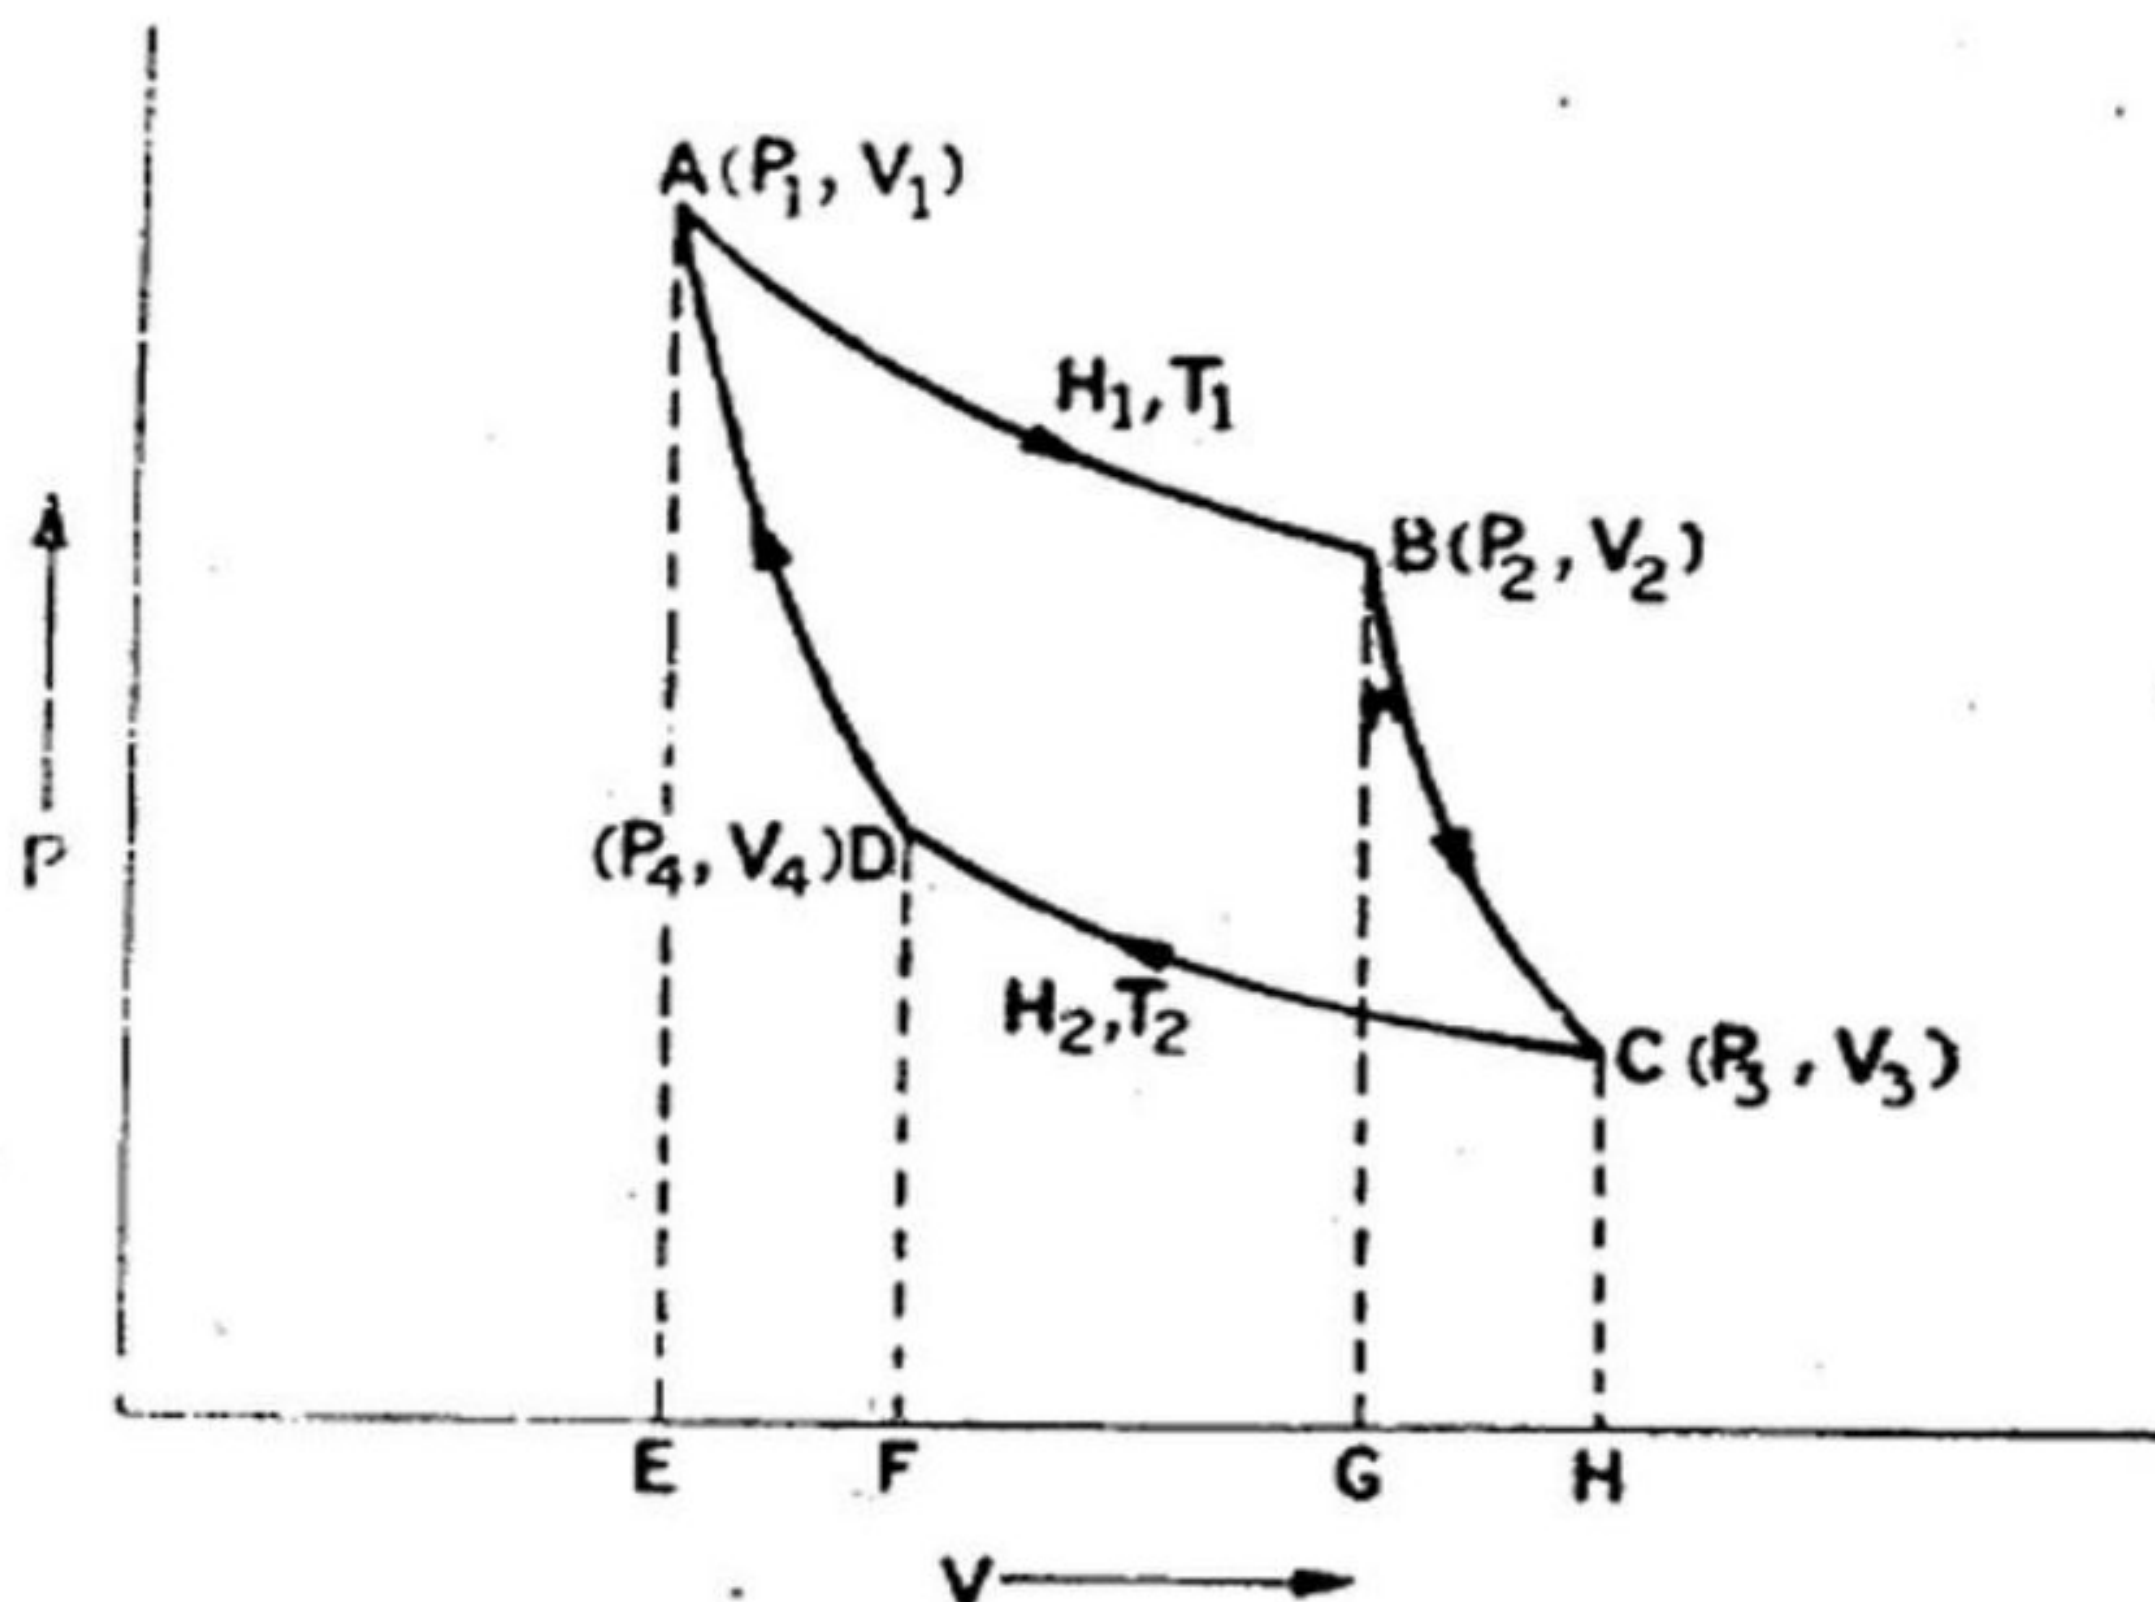

Fig. 6.13
(1) Place the engine containing the working substance over the source at temperature T_1 . The working substance is also at a temperature T_1 . Its pressure is P_1 and volume is V_1 as shown by the point A in Fig. 6.13. Decrease the pressure. The volume of the working substance increases. Work is done by the working substance. As the bottom is perfectly conducting to the source at temperature T_1 , it absorbs heat. The process is completely isothermal. The temperature remains constant. Let the amount of heat
increases. The process is completely adiabatic. Work is done by the working substance at the cost of its internal energy. The temperature falls. The working substance undergoes adiabatic change from B to C . At C the temperature is T_2 (Fig. 6.13).